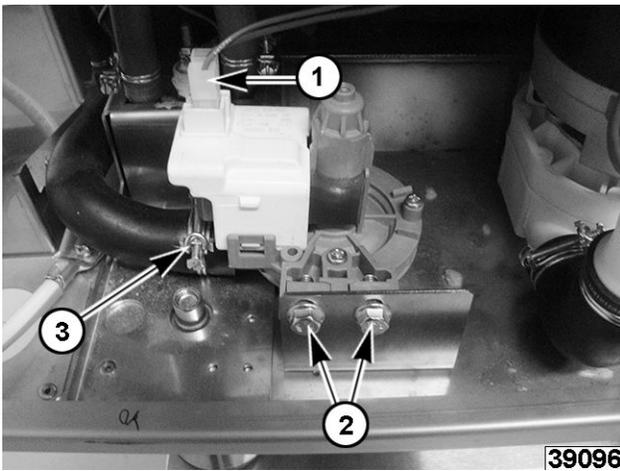

Fig. 60
3. Note and disconnect wire connectors (1, Fig. 60) to drain pump.
4. Remove mounting bolts (2, Fig. 60).
5. Remove drain hose (3, Fig. 60).